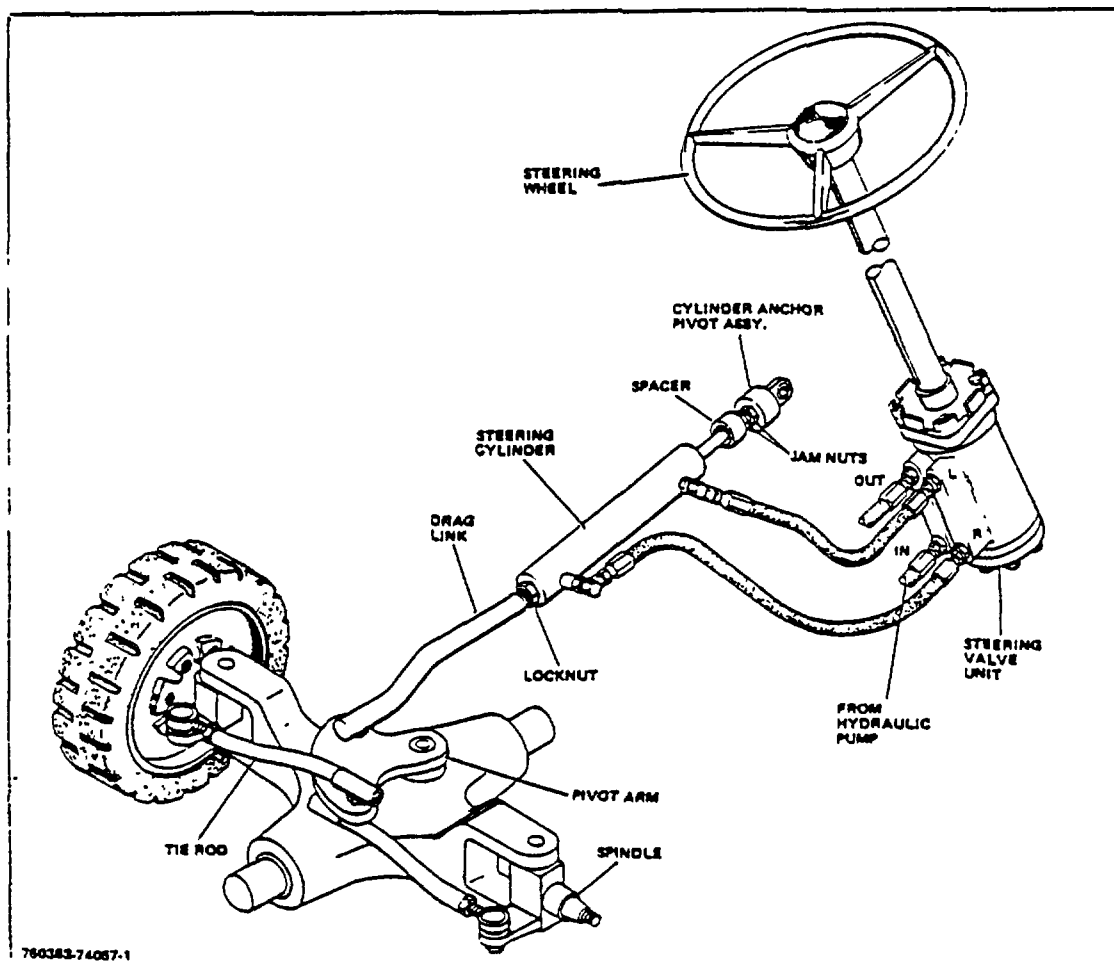

Figure 29. Power Steering System
2. Place a drain pan under cylinder ports and remove hoses from steering cylinder (Fig 29). Plug cylinder ports and hoses to prevent dirt from entering hydraulic system. Tag hoses for identification.